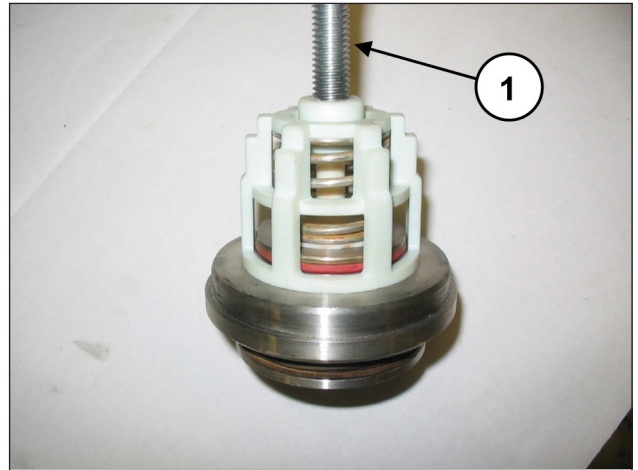

Fig. 104
Remove the suction and outlet valve units, unscrewing an M10 screw in such a way to press on the inner guide and remove the valve guide from the valve housing (pos. ①, Fig. 104).